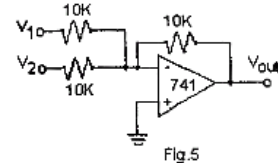

Fig.5
a. Build the adder circuit of Fig.5. Apply dc voltages of $V_1=2V$ and $V_2=3V$ to the inputs. Measure and record the actual V_1 , V_2 and V_{out} . Compare with theory.